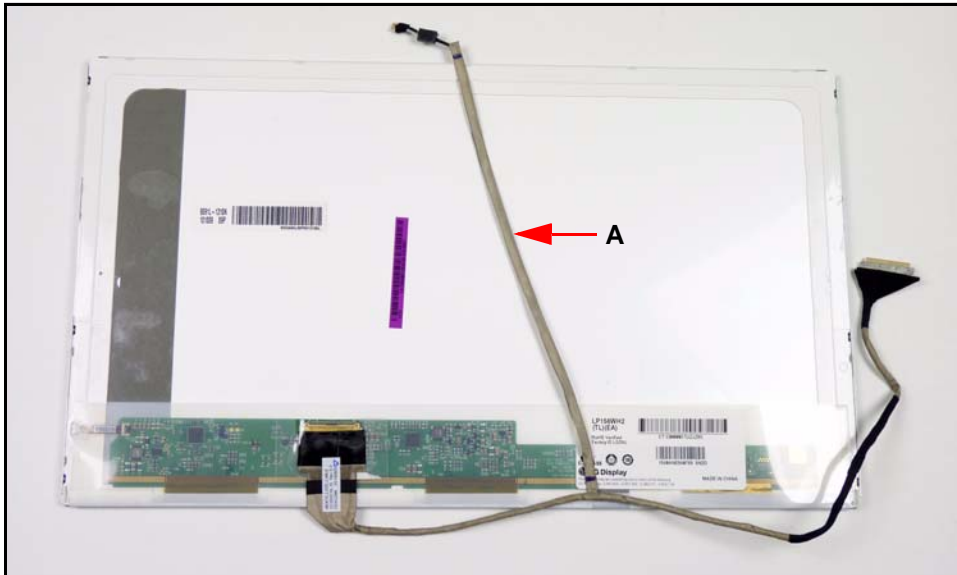

Figure 3-49. LVDS Cable
1. Remove LVDS (Low-voltage Differential Signaling) cable (A) from the adhesive on the rear of the LCD panel. (Figure 3-49)
2. Put LVDS cable (A) on the rear of the LCD panel. (Figure 3-49)